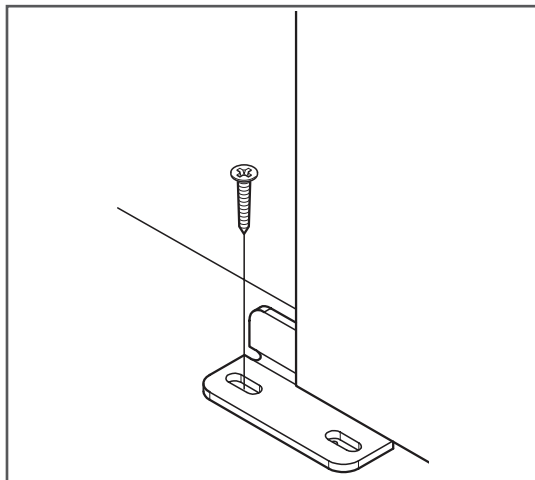

Figure 12
17. Position the Door Guide part way into the groove in the bottom of the door (Figure 12).